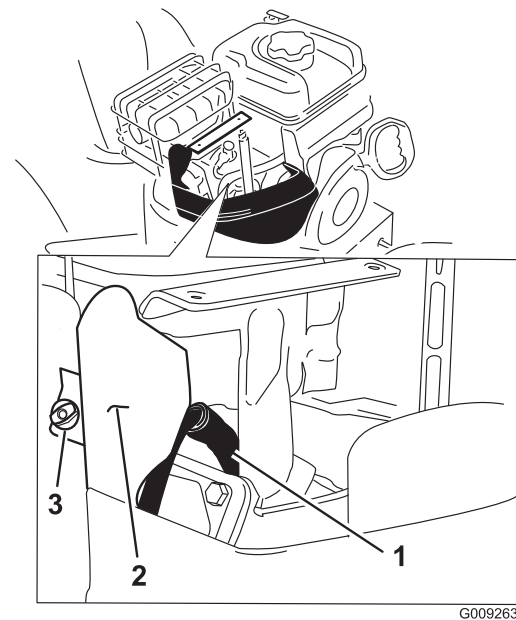

Figure 46
- Clean around the base of the spark plug (Figure 46).